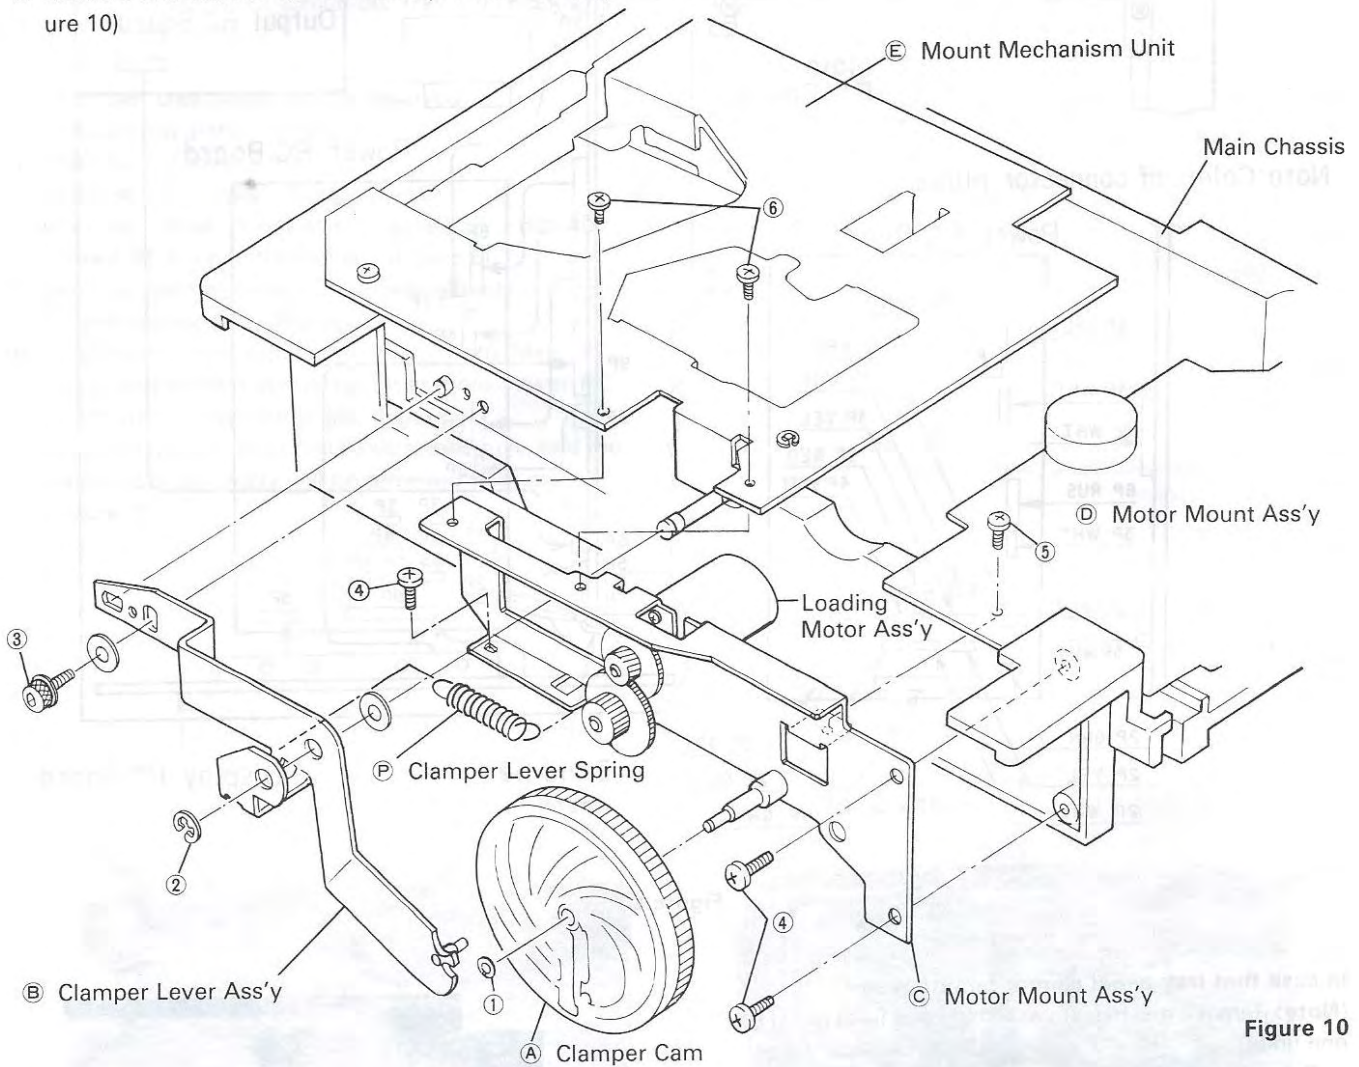
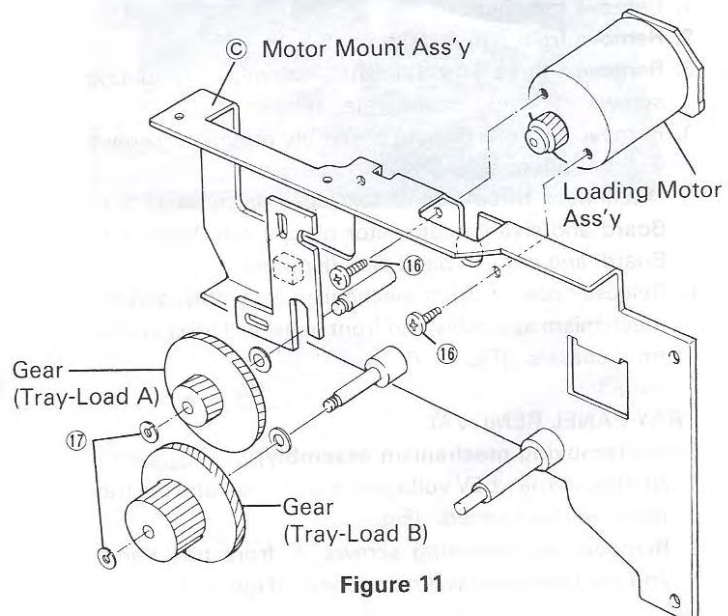

Figure 10
Figure 11
1. Remove clamber lever spring ① which is hooked on clamber lever assembly ② and motor mount assembly ③ . (Figure 10)
2. Remove one washer ④ from clamber cam ⑤. (Figure 10)
3. Remove E ring ② and one screw ③ from clamber lever assembly, and clamber cam ④ and clamber lever assembly ⑤ will be removed. (Figure 10)
4. Remove three screws ⑥ from motor mount assembly ⑦ and one screw ⑧ from motor mount assembly ⑨. (Figure 10)
5. Remove two screws ⑩ from mount mechanism unit assembly ⑪, and motor mount assembly ⑦ will be removed.
6. Remove two screws ⑫ from motor mount assembly ⑦, and loading motor assembly will be removed. Remove two washers ⑬, and two gears (tray-loads A, B) will be removed. (Figure 11)
1. Remove clamber lever assembly ②, clamber cam ①, motor mount assembly ③ and motor mount assembly ④. (Figure 10)